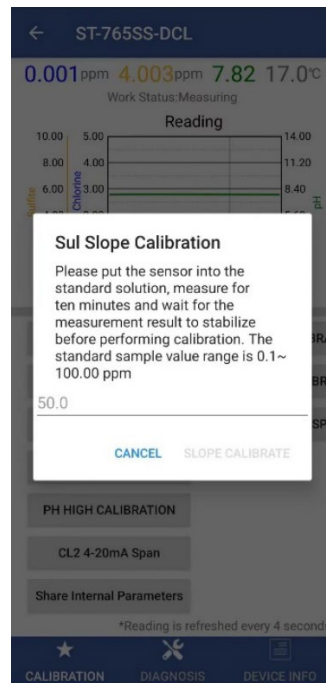

Figure 8 – Enter Sulfite Concentration to begin Slope Calibration
The ST-765SS-DCL sensor must be slope calibrated for Sulfite based on titration test method results of the actual system sample while installed in the ST-007 or FR-300-PLUS flow reservoir and exposed to **CONSISTENT** system sample flow with the specified range as outlined in the specifications section 1.0 of this manual. Determine the Sulfite concentration in ppm of the sample water taken from the sensor flow tee/reservoir output sample by using the of the titration method, colorimeter or fluorometer (i.e. Pyxis SP-800 / SP-910 or Hach DR1300). Once you have tested and confirmed the Sulfite concentration value in the active (flowing) sample, Tap **SUL SLOPE CALIBRATION** and enter the test result value of the portable or laboratory colorimeter in Calibration Screen as shown in Figure 8.
**Slope-point Calibration:** Insert the ST-765SS Series sensor back into the ST-007 tee or the FR-300-PLUS flow reservoir and reestablish sample flow. The ST-765SS-DCL sensor must be slope calibrated for Sulfite based on test method results of the actual system sample while installed in the ST-007 tee or the FR-300-PLUS flow reservoir used with the sensor and exposed to consistent system sample flow for the installation method being used as outlined in the specifications section 1.0 of this manual. Determine the Sulfite concentration using titration method, colorimeter or fluorometer (i.e. Pyxis SP-800 / SP-910 or Hach DR1300). Once you have tested and confirmed the Sulfite concentration value in the active (flowing) flow tee assembly, Tap **SUL SLOPE CALIBRATION** and enter the test result value of the portable or laboratory colorimeter in Calibration Screen as shown in Figure 8.